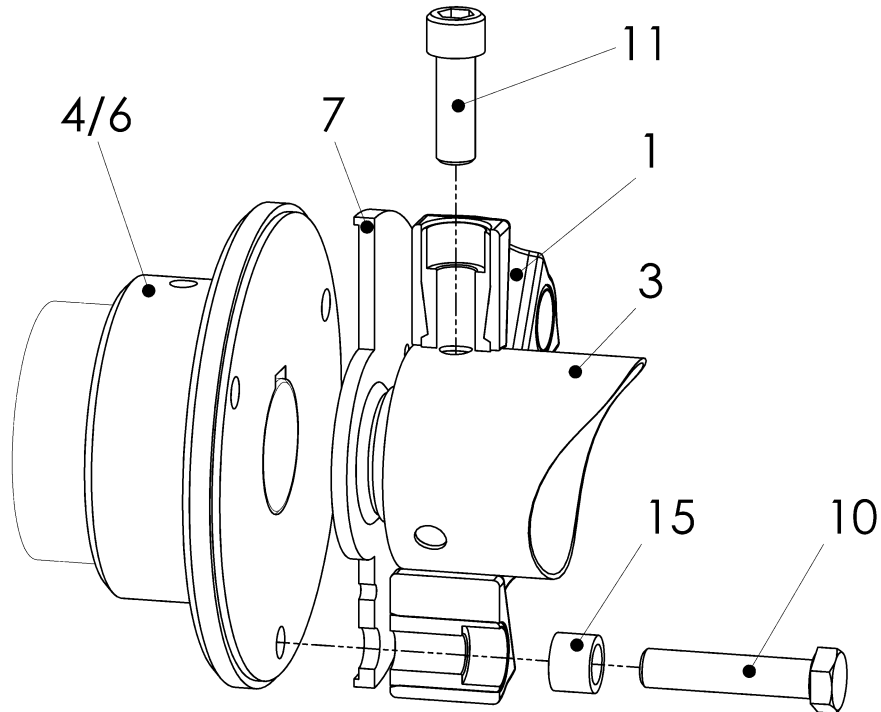

*Fig. 6-6 Positioning the tube with elastic elements and adapter assemblies in the installation space*
- Support the tube (3) in the installation space.
- Loosen the screws (11) of the connection elastic elements (1) and tube (3) and remove.
- Loosen the screws (10) of the connection elastic elements (1), adapter assemblies (7) and hubs (4/6).
- Pull the elastic elements (1) approx. 20 mm away from the hubs (4/6).
- Pull the adapter assemblies (7) off the centring of the hubs (4/6) and push up to the stop into the tube (3).
**See Fig. 6-6:**
- Remove the tube (3) with the elastic elements (1) and the adapter assemblies (7) out of the installation space.